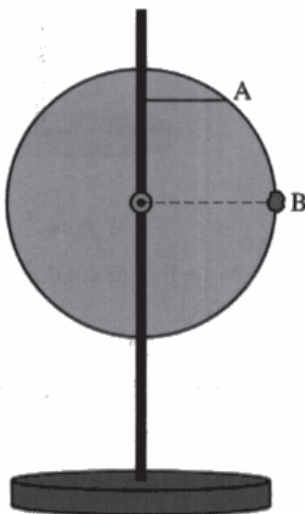

Figure 2
- (c) The string remains connected to the edge of the disk at Point A. The clay is moved to Point B, which is horizontally in line with the axle, as shown in Figure 2. How does the new tension $F_{T, \text{new}}$ compare with tension F_T from part (b)? **Justify** your reasoning.